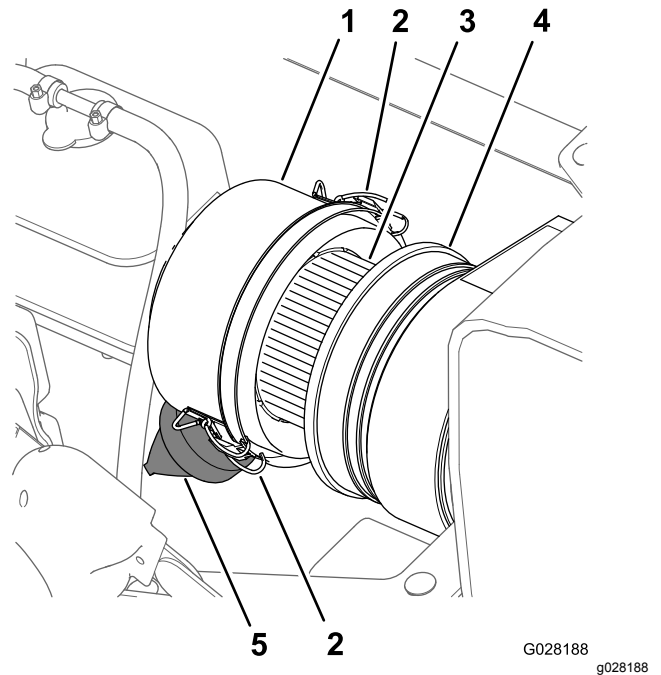

Figure 68
3. Clean the dust cap and air-cleaner body (Figure 68).
4. Check the air-cleaner body for damage that could cause an air leak (Figure 68).
5. Squeeze the dust valve to clear it of dirt, dust, and debris (Figure 68).
7. Check the air-filter element for excessive accumulation of dust, dirt, and debris (Figure 68).
8. Install the dust cap onto the air-cleaner body and secure the cap with the 2 latches (Figure 68).
2. Clean the dust cap and air-cleaner body (Figure 68).
6. Clean the inside of the dust cap, air-cleaner body, and dust valve with a damp rag (Figure 68 and Figure 69).